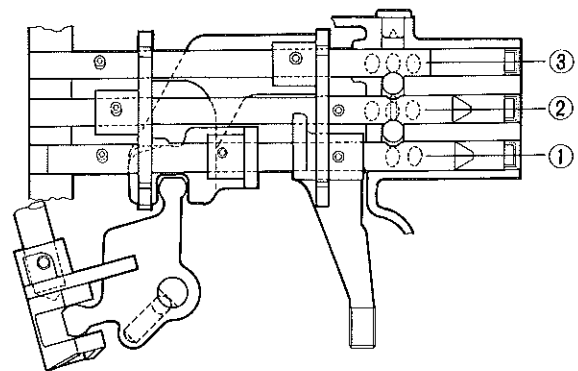

Fig. 14-49
Install the shifter shaft in the order of reverse shaft ①, high-speed shaft ② and low-speed shaft ③, as shown in Fig. 14-49.